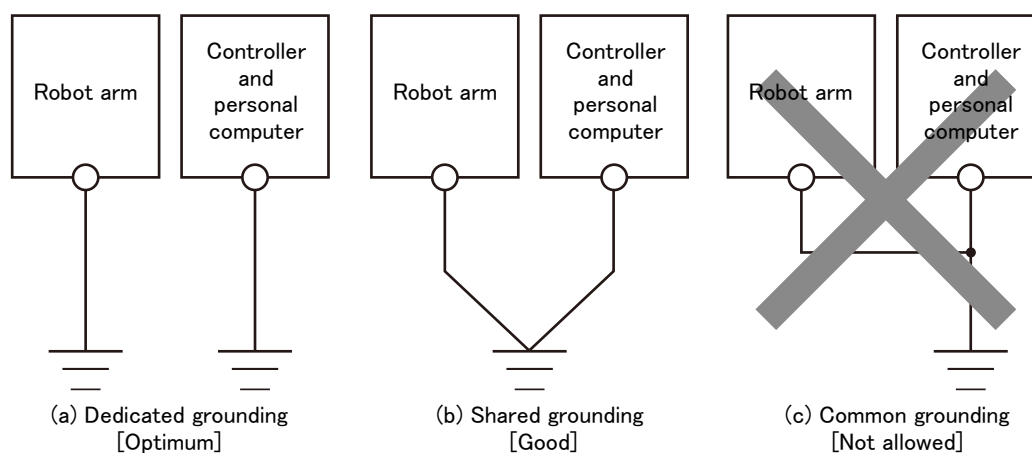

Fig.2-9 : Grounding methods
- 1) There are three grounding methods as shown in Fig. 2-9, but the dedicated grounding (Fig. 2-9 (a)) should be used for the robot arm and controller when possible. (Refer to the separate "Controller Setup, Basic Operation and Maintenance" for details on the controller grounding.)